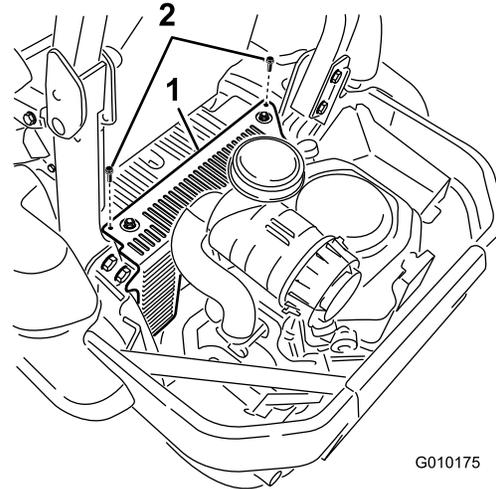

Figure 4
1. For international machines only, remove the hydraulic unit shroud from the machine (Figure 4). Save hardware and shroud.